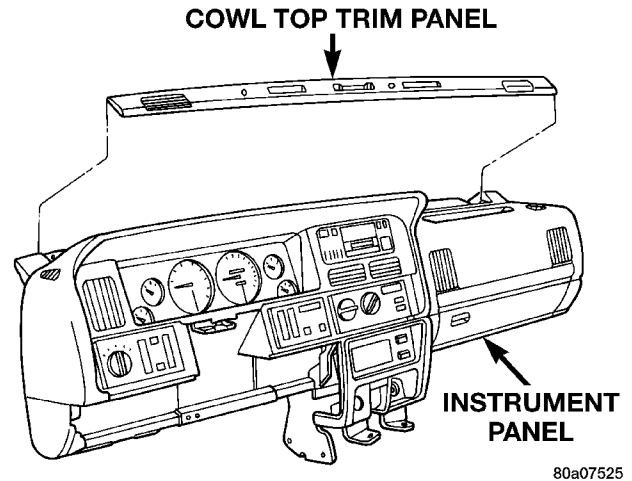

Fig. 14 Cowl Top Trim Remove/Install
(1) Disconnect and isolate the battery negative cable.
(2) Using a trim stick or another suitable wide flat-bladed tool, gently pry the cowl top trim panel off of the instrument panel top pad (Fig. 14).
(3) Pull the trim panel up far enough to access and unplug the wire harness connector for the solar sensor, or to remove the solar sensor from the cowl top trim, if the vehicle is so equipped.
(4) Remove the cowl top trim panel from the instrument panel.
(5) Remove the auto headlamp light sensor/vehicle theft security system set lamp mounting screw near the driver side defroster duct outlet.
(6) Pull the set lamp up from the top of the instrument panel far enough to access and unplug the wire harness connector.
(7) remove the set lamp from the instrument panel.
(8) Reverse the removal procedures to install. Tighten the mounting screw to 2.2 N·m (20 in. lbs.).